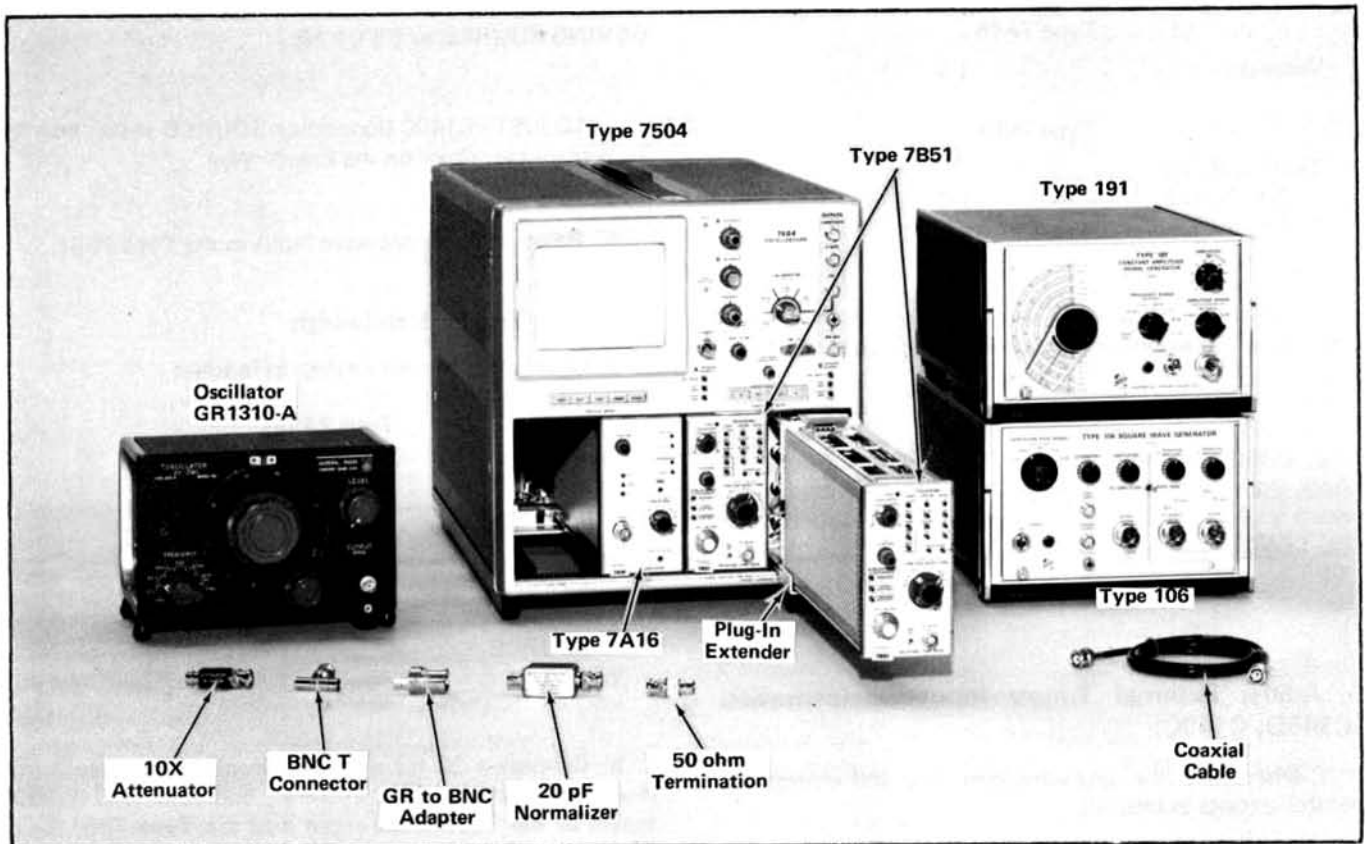

Fig. 5-1. Test equipment required for steps 1 through 8.
a. Test equipment required is shown in Fig. 5-1.